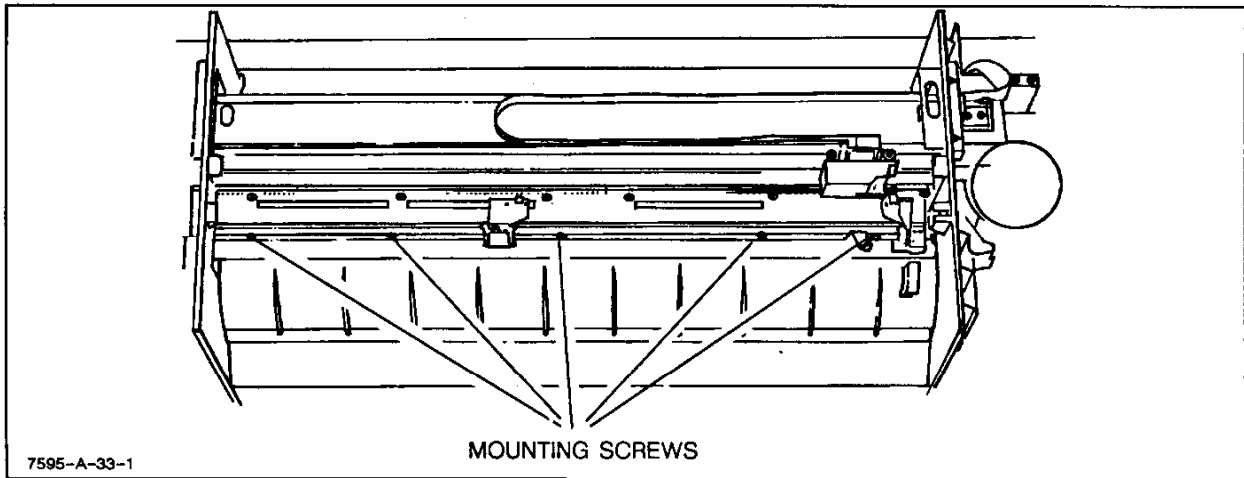

Figure 6-32. Pinch Wheel Bridge Assembly Removal
- d. Remove the five bridge mounting screws (Torx #15). See Figure 6-32.
- e. Gently lift the right side up and slide the right pinch wheel subassembly inward. Carefully lift the pinch wheel bridge assembly out of the plotter. See Figure 6-32.